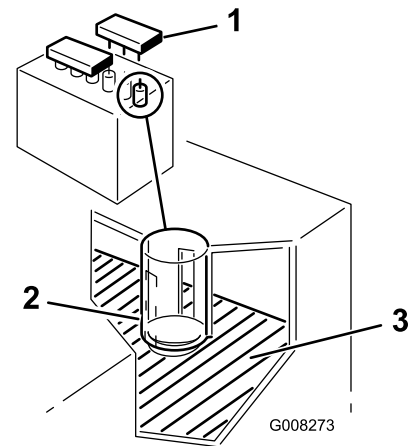

Figure 31
2. Remove the filler caps. If the electrolyte is not up to the lower part of the tube (Figure 31), add the required amount of distilled water; refer to Adding Water to the Battery.
2. Remove the filler caps (Figure 31).
3. Slowly pour distilled water into each battery cell until the level is up to the lower part of the tube (Figure 31).